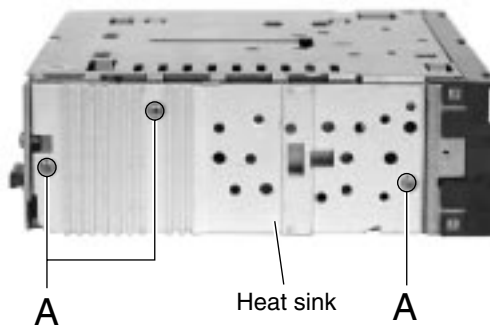

Fig.4
■ **Removing the heat sink (See Fig.4)**